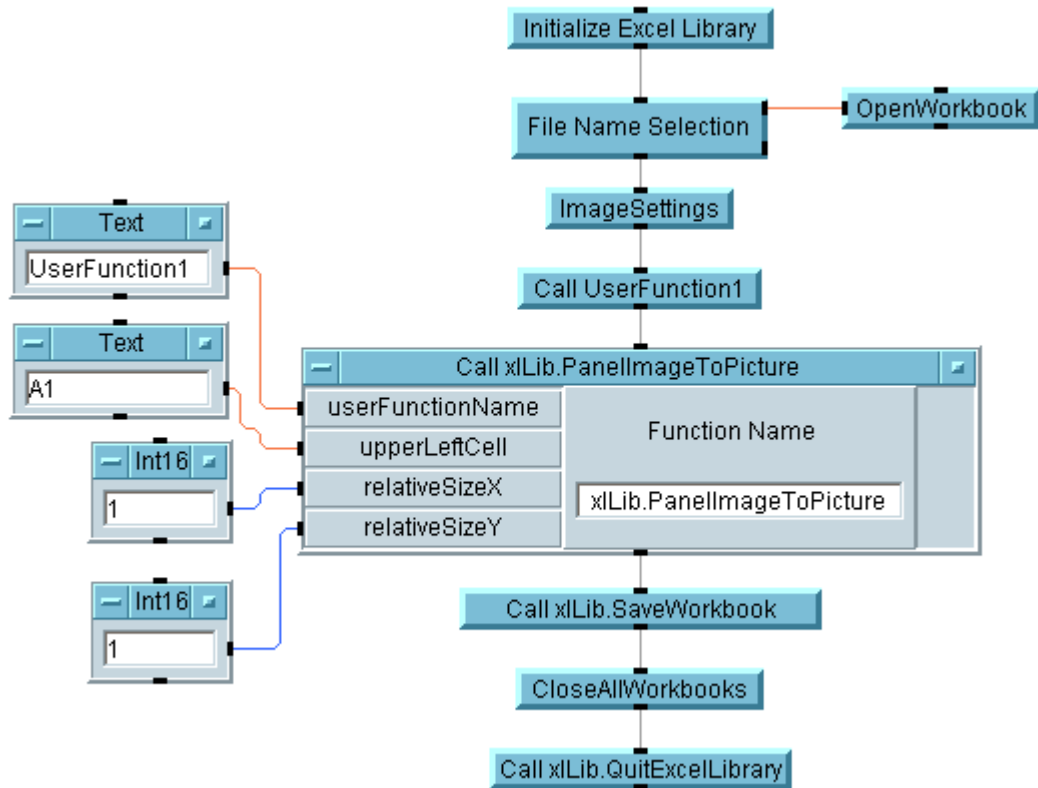

Figure 203 Panel Image to Picture
- 4 Insert the **Panel Image to Picture** object. Add two Text constants and two Int16 constants and wire them as shown in Figure 203. Wire the **Panel Image to Picture** as shown in Figure 203 also. The relative size parameters